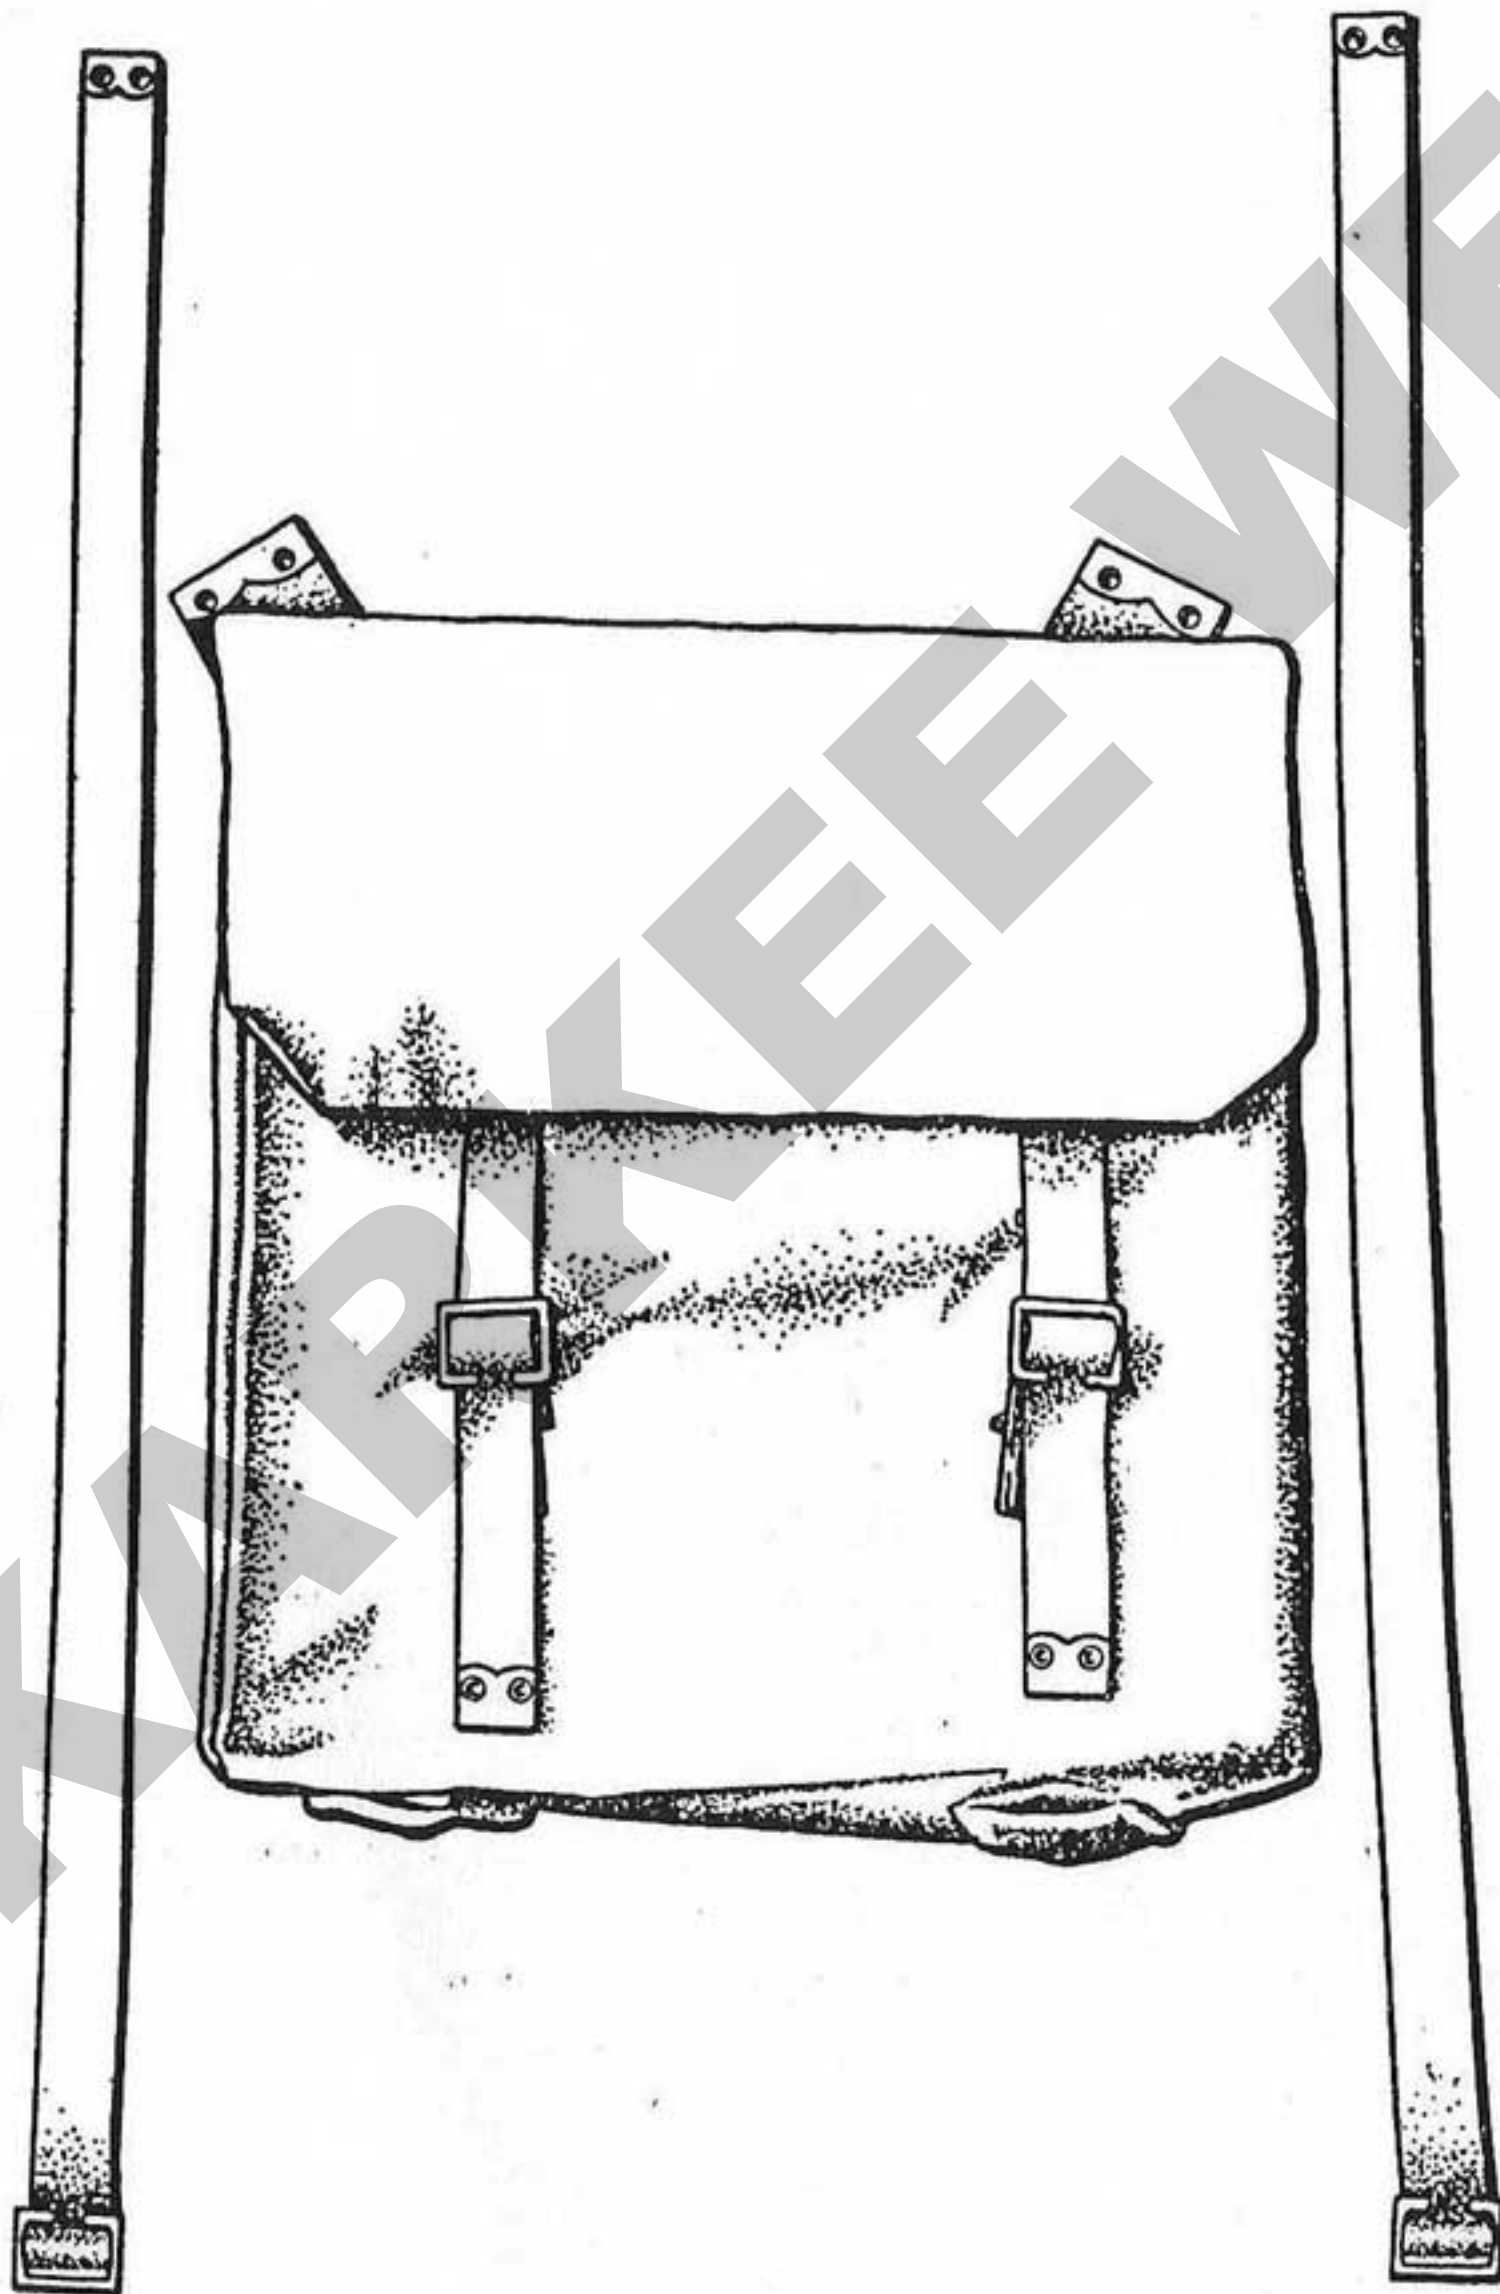

Fig. 12. Pack and pack supporting straps
15. Marching order contains the same items of equipment as battle order, with the addition of the pack and its supporting straps. (See Fig. 12.) Its purpose is to increase the man's carrying capacity and so prolong the time he can be self-sufficient ashore. Owing to its bulk and weight, it is not suitable to wear in action. It is, however, a good dress for men disembarking to billets, etc., when it is desirable that each man should carry as much of his own kit as possible.